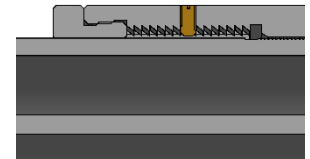

Fig 11
L-11.5) Install lock ring (3) onto setting sleeve (21) until outer threads contact threads in setting chamber (30). Rotate setting chamber (30) to thread lock ring (3) into setting chamber leaving enough room for setting chamber cap (22) to be installed (Fig. 11).